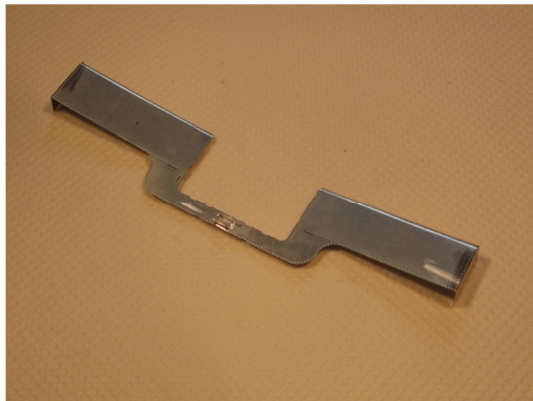

Fig. 14
33. Solder the tank ends in place. Fig 14 &15.